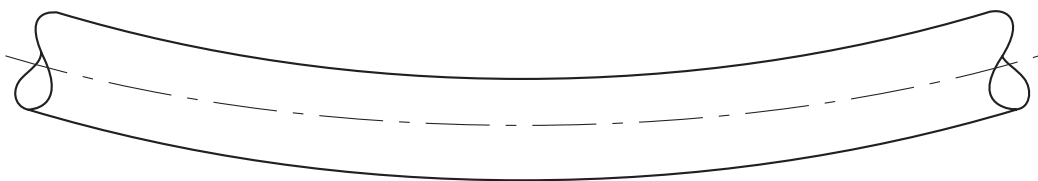

Fig. 10
- (ii) Fig. 10 shows part of the stand and how it deflects when loaded.
Add labels to Fig. 10 to show: